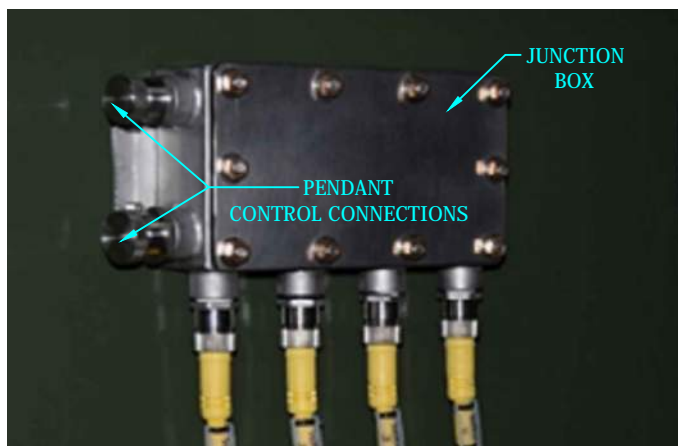

FIGURE 16
M. PENDANT CONTROLLER MUST BE CONNECTED TO THE JUNCTION BOX PICTURED BELOW TO OPERATE MOTOR OPERATORS. JUNCTION BOX CONNECTIONS ARE SEVEN-PIN AND 12-PIN, SO THEY CANNOT BE INSTALLED INCORRECTLY. SEE FIGURE 16.